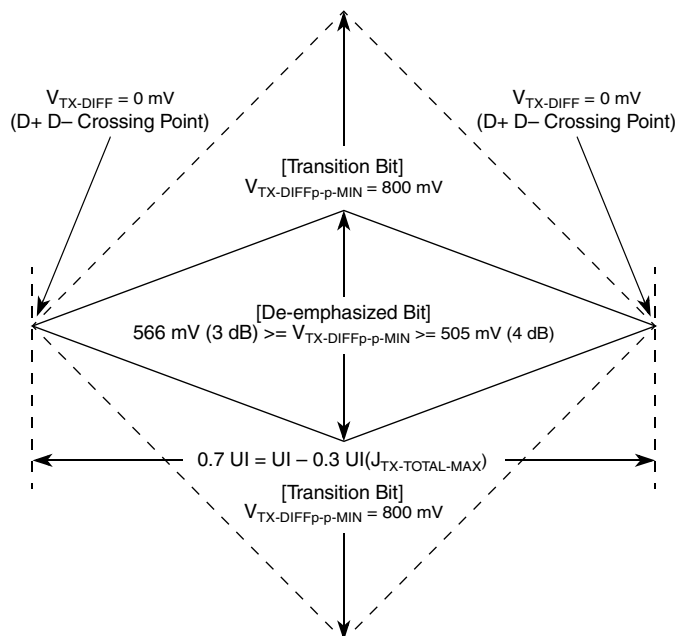
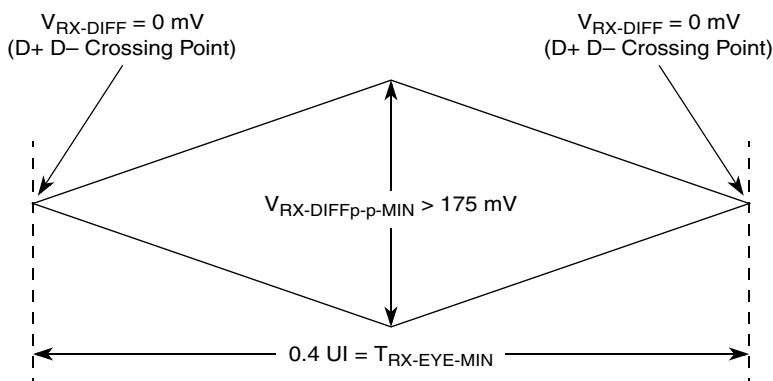
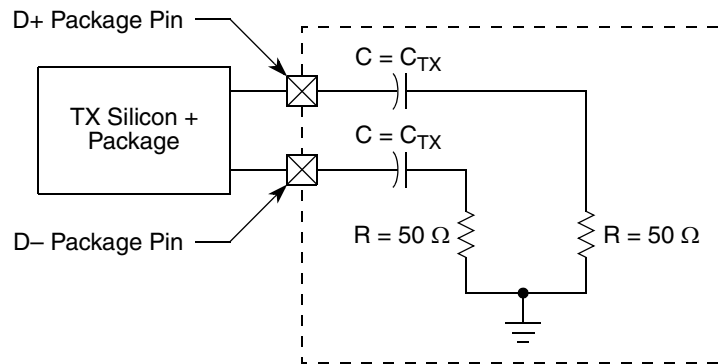

Figure 46. Minimum Transmitter Timing and Voltage Output Compliance Specifications
Figure 47. Minimum Receiver Eye Timing and Voltage Compliance Specification
Figure 48. Compliance Test/Measurement Load
2. Specified at the measurement point into a timing and voltage compliance test load as shown in Figure 48 and measured over any 250 consecutive Tx UIs. (Also refer to the transmitter compliance eye diagram shown in Figure 46.)
4. The transmitter input impedance will result in a differential return loss greater than or equal to 12 dB and a common mode return loss greater than or equal to 6 dB over a frequency range of 50 MT/s to 1.25 GHz. This input impedance requirement applies to all valid input levels. The reference impedance for return loss measurements is 50 Ω to ground for both the D+ and D– line (that is, as measured by a vector network analyzer with 50- Ω probes, see Figure 48). Note that the series capacitors, C_{TX} , is optional for the return loss measurement.
5. Measured between 20%–80% at transmitter package pins into a test load as shown in Figure 48 for both V_{TX-D+} and V_{TX-D-} .
The Tx eye diagram in Figure 46 is specified using the passive compliance/test measurement load (see Figure 48) in place of any real PCI Express interconnect + Rx component. There are two eye diagrams that must be met for the transmitter. Both diagrams must be aligned in time using the jitter median to locate the center of the eye diagram. The different eye diagrams differ in voltage depending on whether it is a transition bit or a de-emphasized bit. The exact reduced voltage level of the de-emphasized bit is always relative to the transition bit.
2. Specified at the measurement point and measured over any 250 consecutive UIs. The test load in Figure 48 should be used as the Rx device when taking measurements (also refer to the receiver compliance eye diagram shown in Figure 47). If the clocks to the Rx and Tx are not derived from the same reference clock, the Tx UI recovered from 3500 consecutive UI must be used as a reference for the eye diagram.
4. The receiver input impedance will result in a differential return loss greater than or equal to 10 dB with the D+ line biased to 300 mV and the D– line biased to –300 mV and a common mode return loss greater than or equal to 6 dB (no bias required) over a frequency range of 50 MT/s to 1.25 GHz. This input impedance requirement applies to all valid input levels. The reference impedance for return loss measurements for is 50 Ω to ground for both the D+ and D– line (that is, as measured by a vector network analyzer with 50- Ω probes, see Figure 48). Note that the series capacitors, C_{TX} , is optional for the return loss measurement.
The Rx eye diagram in Figure 47 is specified using the passive compliance/test measurement load (see Figure 48) in place of any real PCI Express Rx component. In general, the minimum receiver eye diagram measured with the compliance/test measurement load (see Figure 48) is larger than the minimum receiver eye diagram measured over a range of systems at the input receiver of any real PCI Express component. The degraded eye diagram at the input receiver is due to traces internal to the package as well as silicon parasitic characteristics that cause the real PCI Express component to vary in impedance from the
compliance/test measurement load. The input receiver eye diagram is implementation specific and is not specified. Rx component designer should provide additional margin to adequately compensate for the degraded minimum receiver eye diagram (shown in Figure 47) expected at the input receiver based on an adequate combination of system simulations and the return loss measured looking into the Rx package and silicon. The Rx eye diagram must be aligned in time using the jitter median to locate the center of the eye diagram.
The reference impedance for return loss measurements is $50\ \Omega$ to ground for both the D+ and D– line (that is, as measured by a Vector Network Analyzer with $50\ \Omega$ probes—see Figure 48). Note that the series capacitors, $C_{PEACCTX}$, are optional for the return loss measurement.
The AC timing and voltage parameters must be verified at the measurement point, as specified within 0.2 inches of the package pins, into a test/measurement load shown in Figure 48.